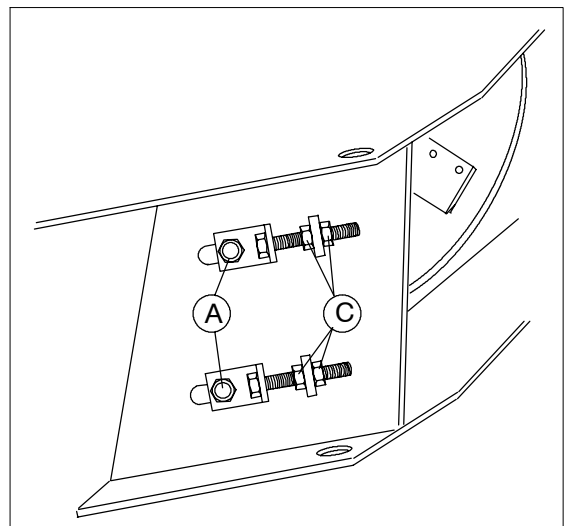

Fig. 25. Vertical anvil fastening and adjustment.
2. Turn the disk so that a knife and the anvil are aligned. Place a feeler gauge between the knife and anvil. Adjust the vertical anvil clearance with the adjusting nuts (M12) (C, Fig. 25.) to 1.2–1.5 mm (0.05–0.06").
3. Tighten the adjusting nuts (C) and anvil fastening bolts (A).
5. Tighten the fastening bolt (B).